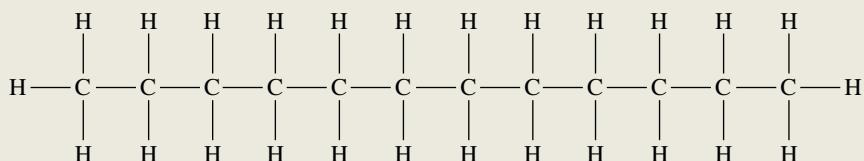

FIGURE 1.3.13 Structure of dodecane—a typical alkane in petrodiesel.
- Petrodiesel is composed of about 75% alkanes containing 10–15 carbon atoms (see Figure 1.3.13) and 25% aromatic compounds.